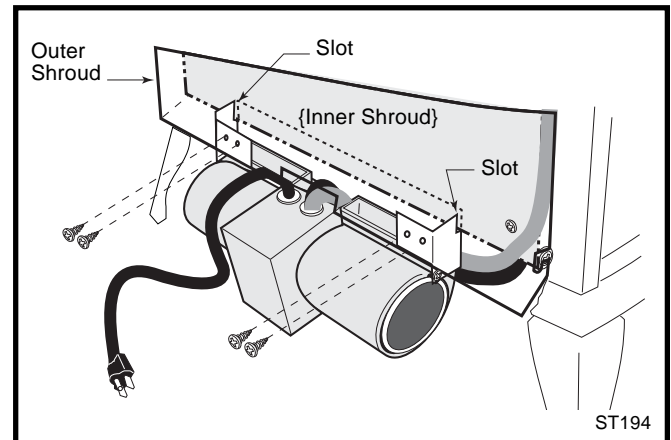

**Fig. 11** Remove the snapstat and grommet from the bracket and insert the grommet into the inner shroud.
5. Connect snapstat leads. Disconnect the snapstat module from the leads inside the snapstat bracket. (Fig. 11) Bend open the snapstat bracket. Use needle nose pliers to remove the black plastic grommet from the bracket. Discard the bracket. Insert the grommet and wires into the large hole at the bottom right corner of the inner shroud. Feed the snapstat wire leads through the grommet into the stove interior. Connect the two wires to the two snapstat extension leads attached to the inner shroud.